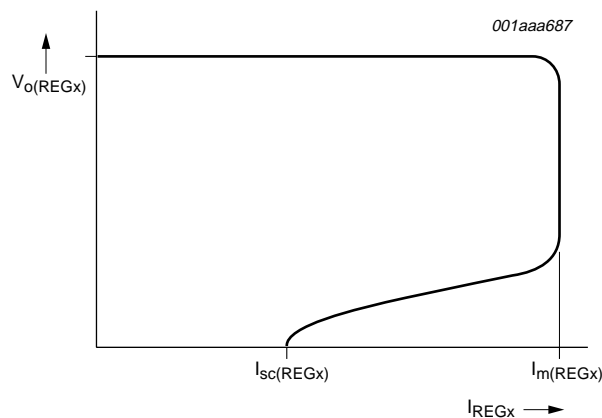
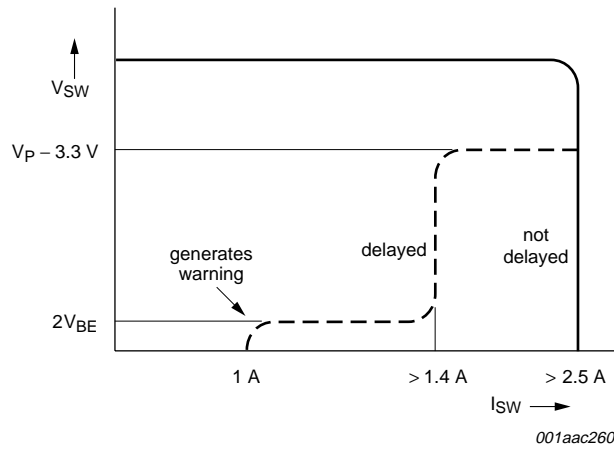

Fig 6. Typical foldback current protection curve for all regulators
Fig 7. Current protection of the power switch
- [9] For a typical shape of the foldback current protection; see Figure 6 and Figure 7.